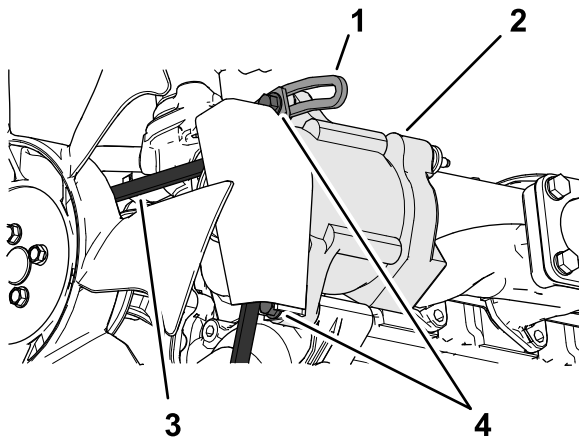

Figure 97
3. Loosen the bolt at the pivot point of the alternator; loosen the bolt that secures the alternator to the slotted brace (Figure 97).